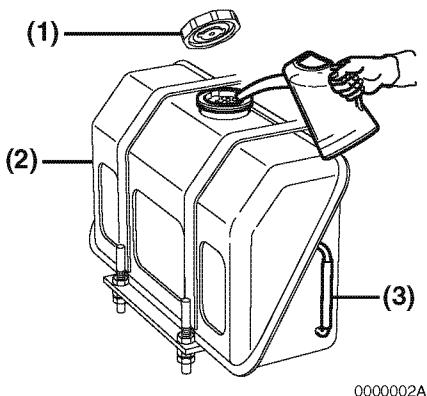

Figure 4-3
1. Clean the area around the fuel cap (**Figure 4-3, (1)**).
2. Remove the fuel cap (**Figure 4-3, (1)**) from the fuel tank (**Figure 4-3, (2)**).
3. Observe the fuel level sight gauge (**Figure 4-3, (3)**) and stop fueling when gauge shows fuel tank is full. NEVER overfill the fuel tank.